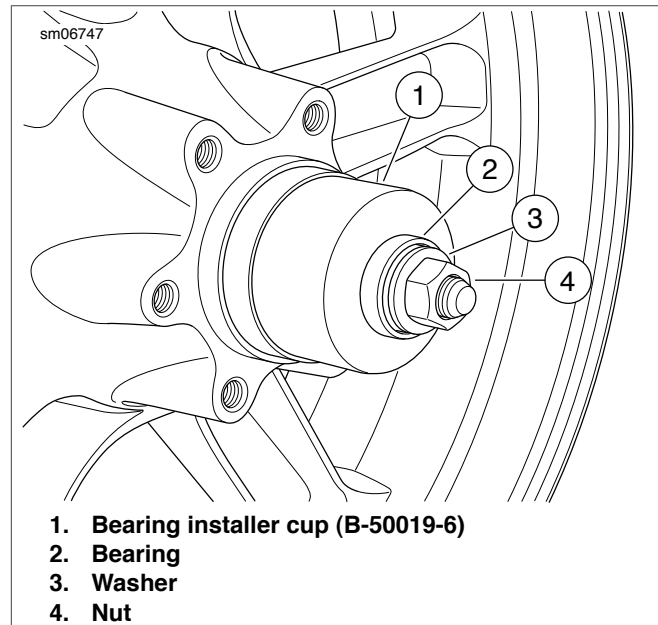

Figure 3. Pressing in the Sprocket Side Inner Wheel Bearing
6. See Figure 3. Slide on the bearing installer cup (Part No. B-50019-6) (1), the bearing (2) and the washer (3). Install the nut (4).